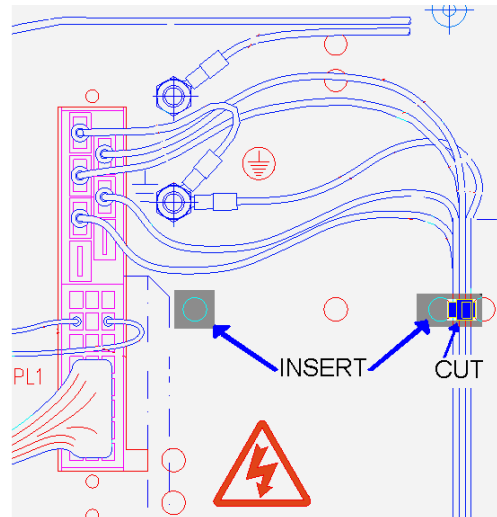

Figure 2 – Cabling
4. Referring to Figure 2, if present, cut the top cable tie securing the power cables.
11. Fit the filter assembly to the rack assembly using the pre-existing holes indentified by "INSERT" in Figure 2, using the washers and nuts provided to secure the bracket from the inside of the rack.